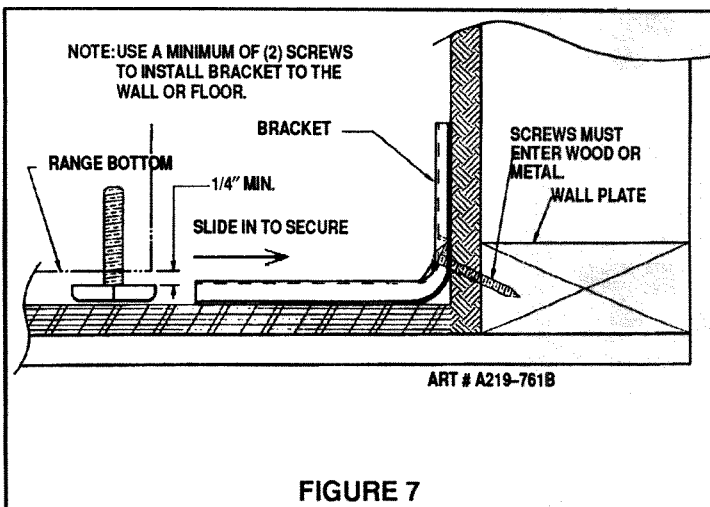

FIGURE 7
- Wall: Locate the center of the two holes identified in figures 3 through 6, as applicable, as “holes for wall.” Drill an angled 1/8” pilot hole in the center of each hole as shown in figure 7 or 8 (a nail or awl may be used if a drill is not available.) Secure the ANTI-TIP bracket to the wall with the two screws provided as shown in figure 7 or 8. Proceed to STEP 3.
- Align the range to its designated location and slide it back into position. Make sure that the leveling foot is fully inserted into and secured by the ANTI-TIP bracket. Note: A minimum clearance of 1/4” is required between the range and the leveling foot that will engage the ANTI-TIP bracket, see figure 7 or 8.